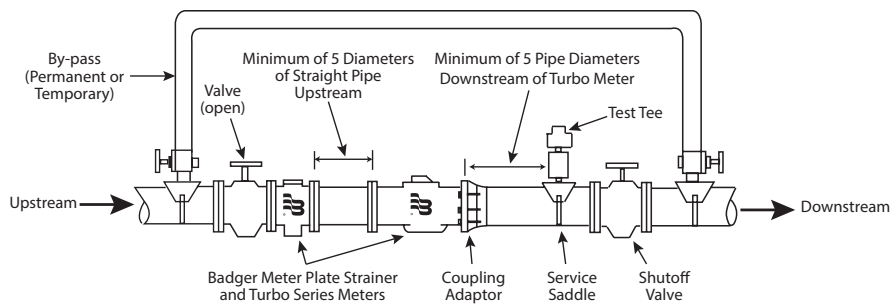

Figure 1: Meter installation
- When installing the meter with a separate plate strainer or integral strainer, a minimum of 5 pipe diameters of straight, unobstructed pipe is recommended upstream of the meter. For optimum protection and accuracy, this straight pipe spool piece should be installed between the separate strainer and meter (see Figure 1). A minimum of 10 pipe diameters (minimum of 25 pipe diameters for smallest size) of straight unobstructed pipe is recommended upstream of a meter installed without a plate strainer. The deletion of a strainer, however, is not recommended. This allows for dampening of velocity profile distortions caused by elbows, pumps, and dirt traps upstream of the meter. Where spiral flows are created by three dimensional elbows or rotary pumps, additional distance to dampen the effect is beneficial. If a basket or Y-type strainer is used, place it 5...10 pipe diameters upstream of the meter to dampen velocity profile distortions created by this design.